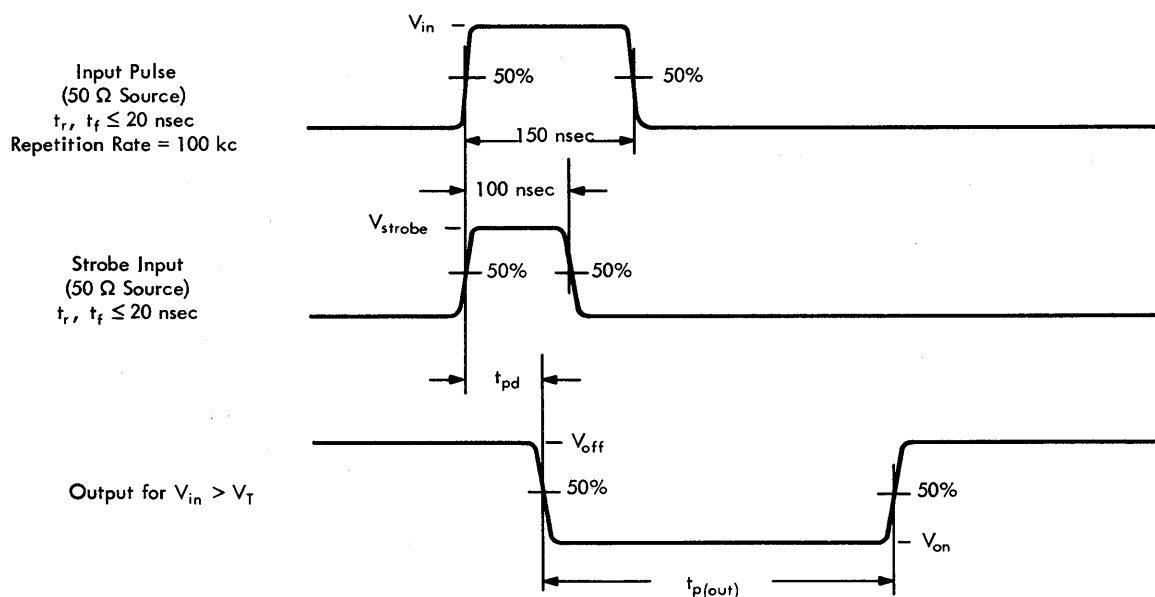

FIGURE 4 — TEST TIMING DIAGRAM FOR THRESHOLD AND SWITCHING CHARACTERISTICS
See Figure 4
- $t_{p(out)}$  — Output pulse width measured at 50-percent levels (see Figure 4).